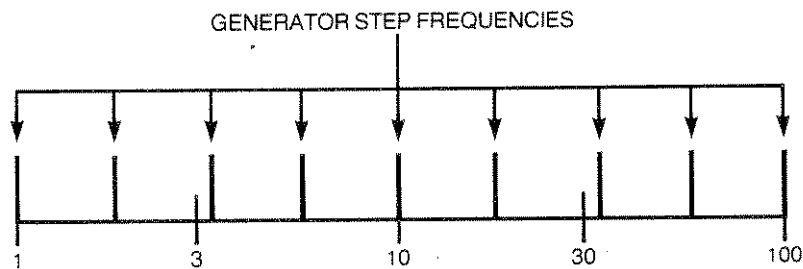

Fig. 6.1 Example of Logarithmic Sweep at 4 Steps per Decade
1. By  $n$  steps per decade. The ratio is the  $n$ th root of 10. Hence the frequencies appear spaced at equal intervals if plotted along a logarithmic base line. See example, Fig. 6.1.